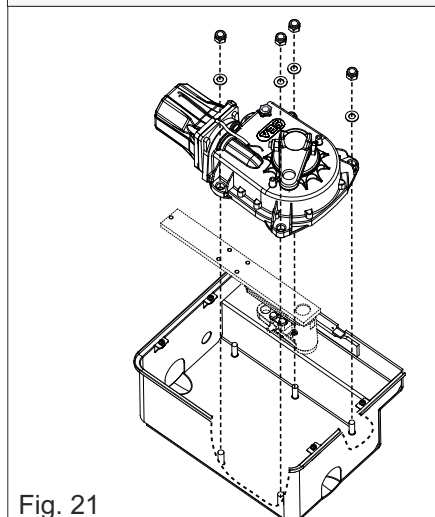
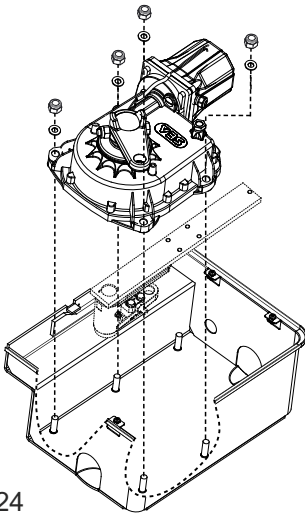

Fig. 21
Fig. 24
5.1. Position the operator in correspondence with the screws already prepared inside the foundation box; screw the operator using the washers and nuts supplied (Fig. 21 or Fig. 24)